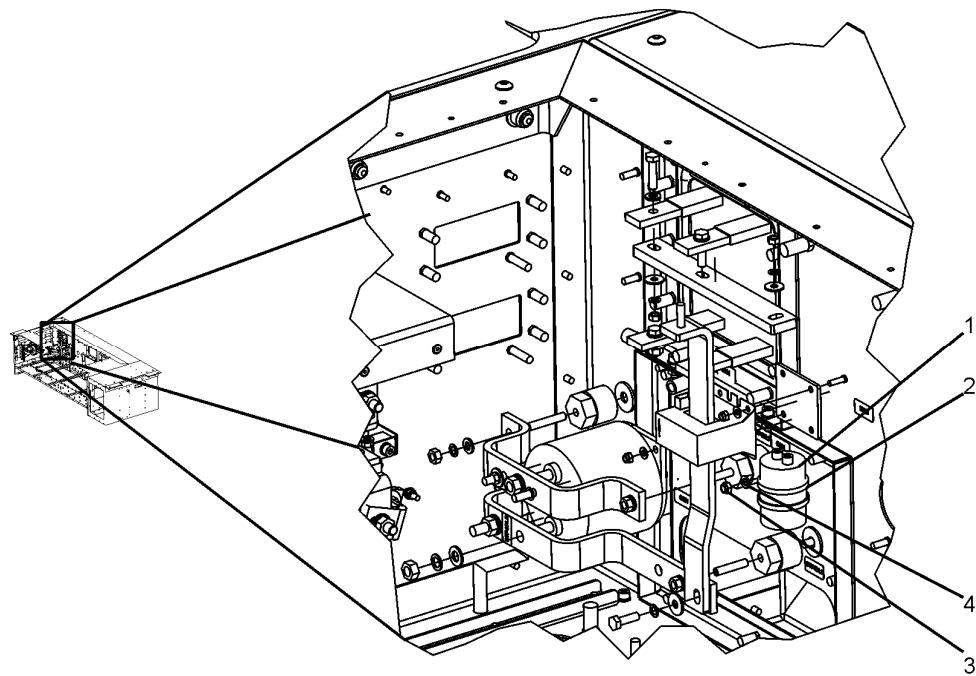

Figure 5-37: C411 Anchor Points
6. Detach C411 (see Figure 5-37). C411 (1) is mounted to the back wall of the APS in the LVPS section and is held in place by a clamping device (2). The tension on the clamp is controlled by an M5 locking nut (3) and M5 washer (4). Loosen these fasteners to loosen the clamping device until the C411 can be rotated within the clamp.
3. Insert C411 (see Figure 5-37). Insert capacitor by placing it in the clamping device with the terminal labeled + on the left and the terminal labeled – on the right. Best practice is to insert the capacitor bottom first into the top of the clamp and slide downward until the clamp is at the middle of the capacitor.
4. Attach C411 (see Figure 5-37). C411 (1) is mounted to the back wall of the APS in the LVPS section and is held in place by a clamping device (2). The tension on the clamp is controlled by an M5 locking nut (3) and M5 washer (4). Tighten these fasteners until the capacitor no longer rotates by hand within the clamp.